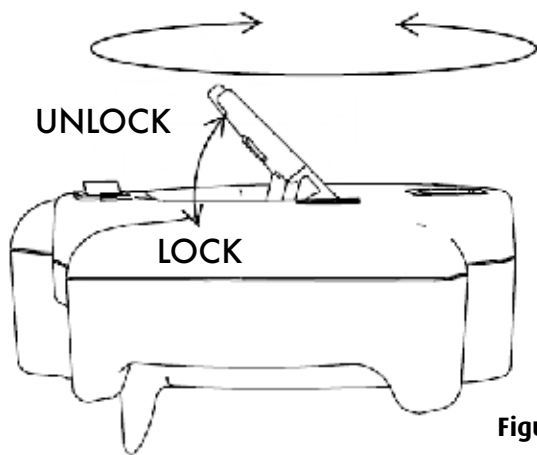

Figure 5
2. Adjust angle by rotating Head Index Latch upward (Figure 5). Position handle in desired location (180 Degrees total rotation).